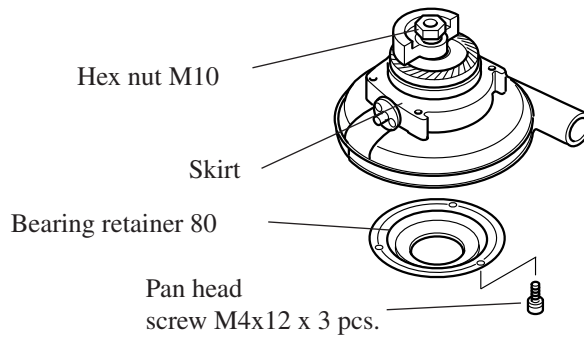

Fig. 6
- (3) Unscrew pan head screw M4x12 and detach bearing retainer 80 from skirt. See Fig.6.